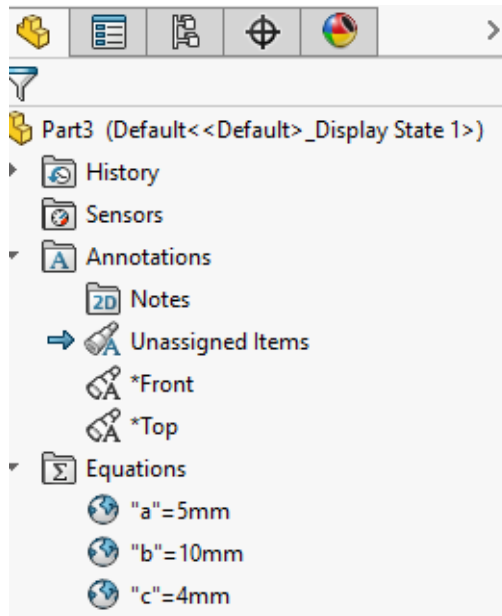

Figure 35 – Global variables in *FeatureManager*
5. Similarly, you need to create 2 more global variables ('b' and 'c') and apply them to other dimensions of the part (Fig. 35).